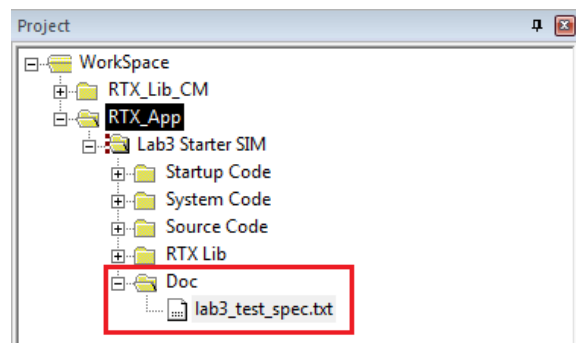

Figure 3.2: Keil IDE: Location of Test Specification File.
3. A test description file to describe what each testing task does. Name the file `lab3_test_spec.txt`. This file is added to the RTX application project as shown in Figure 3.2.